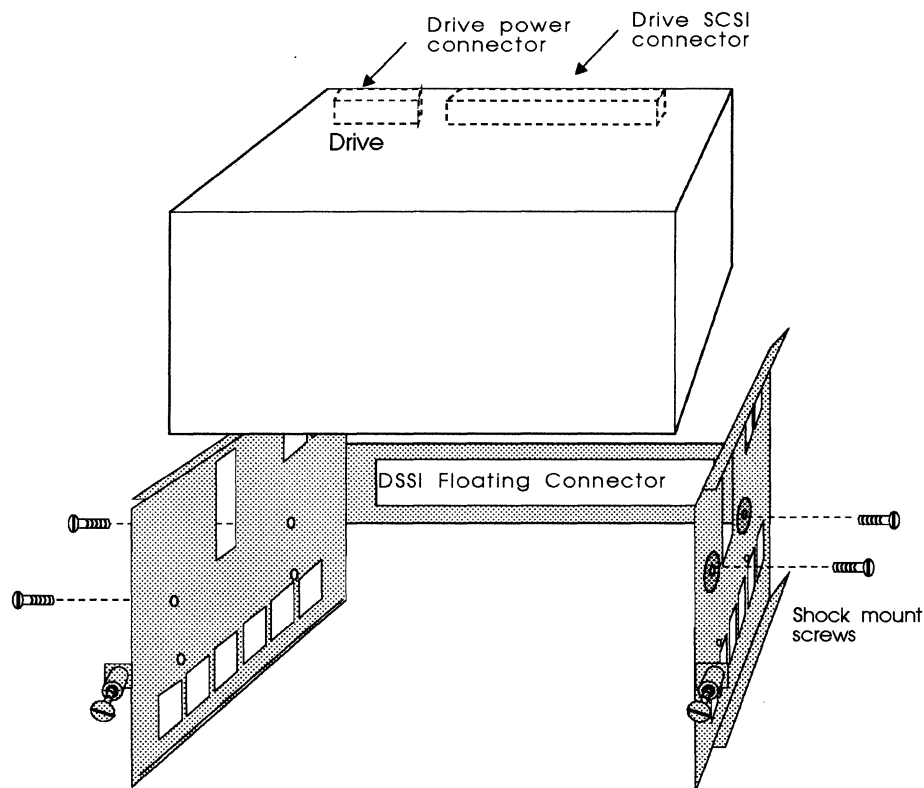

Figure 4-11: CDI-4000-SA1 drive installation
- 2 Put four screws into the drive through the ISE chassis, two screws on the right and two on the left side of the drive. SCSI connector on the drive must face the floating connector on the ISE chassis. See Figure 4-11.